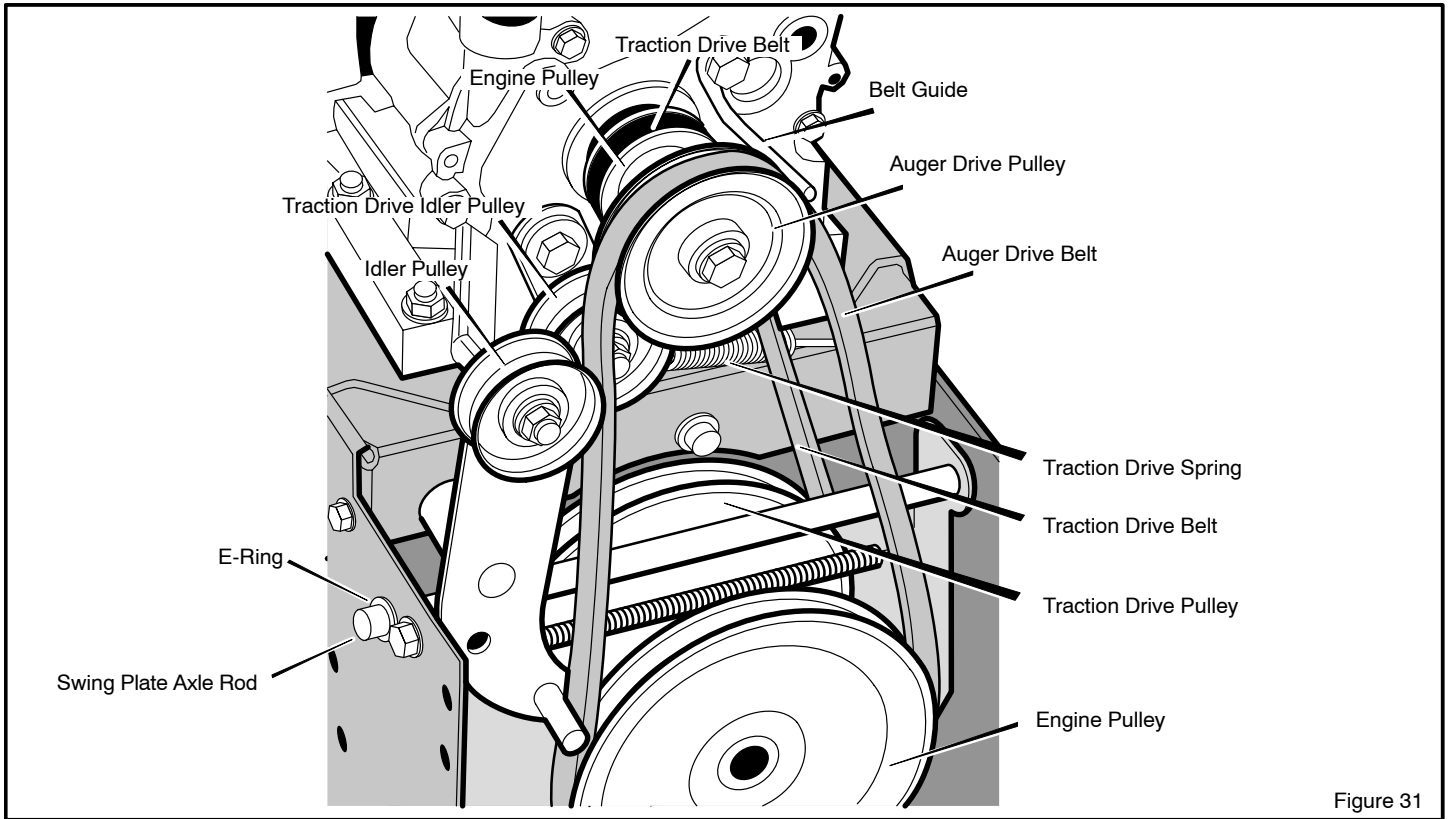

Figure 31
3. Loosen nut on auger idler pulley and move auger idler pulley towards belt about 1/8 inch (3 mm) (see Figure 31).
5. Loosen the **belt guide**. Pull the **belt guide** away from the **auger drive pulley** (see Figure 31).
9. Remove the old **auger drive belt** from the **auger drive pulley**. Replace the **auger drive belt** with an original factory replacement belt available from an authorized service center (see Figure 31).
3. Remove the **e-ring** from one end of the **swing plate axle rod**. Remove the **swing plate axle rod** to allow the the swing plate to pivot forward (see Figure 31).